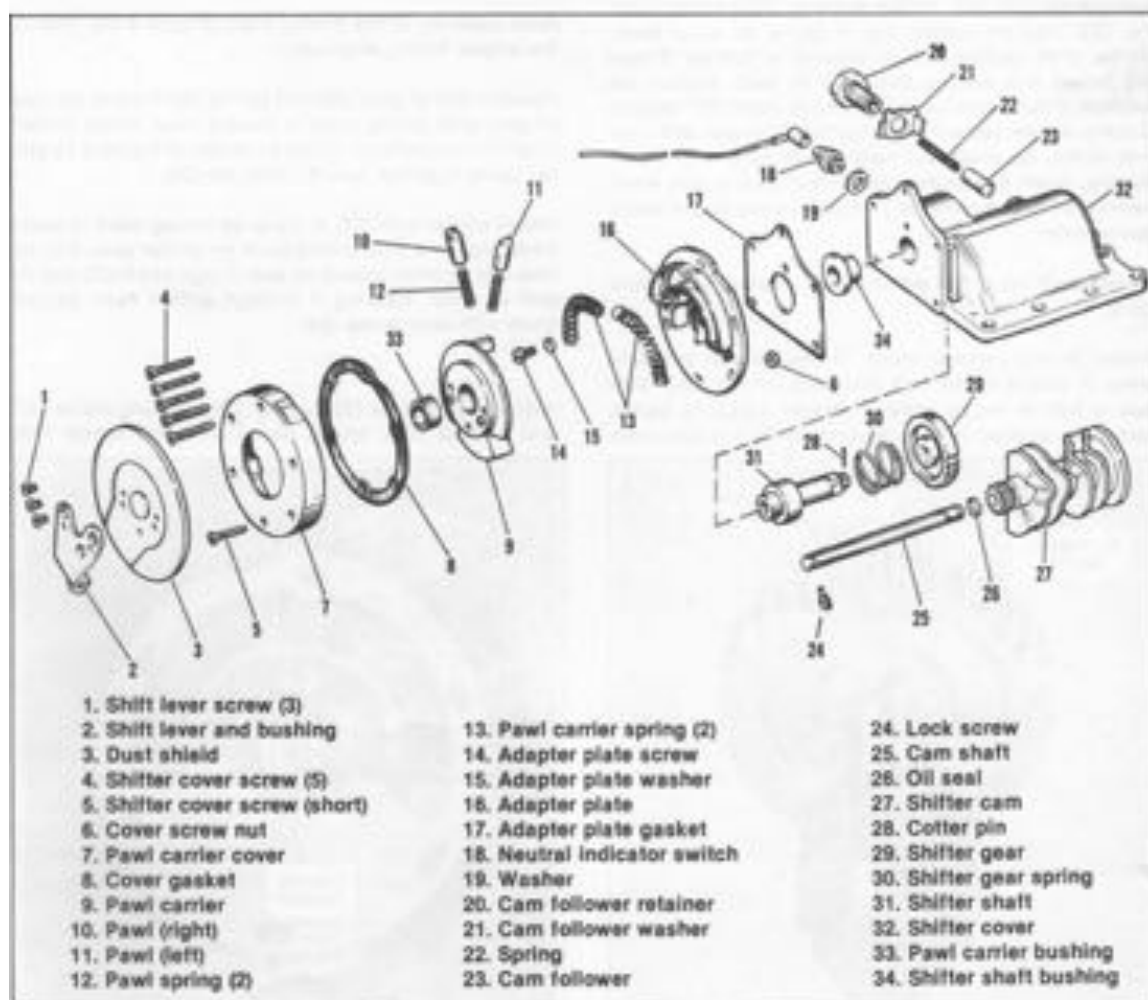
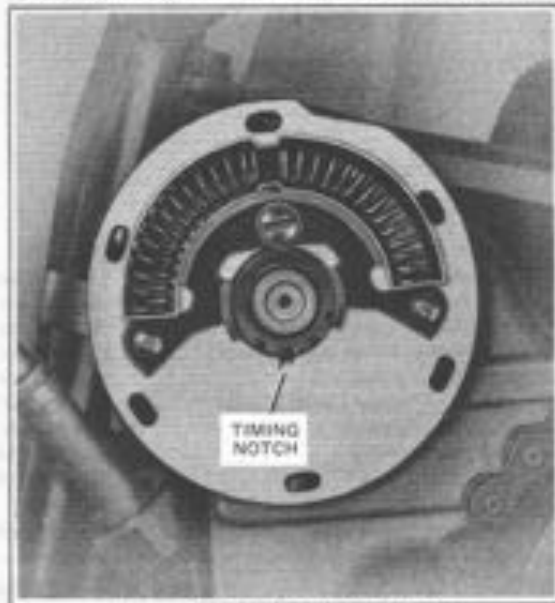

Figure 4-12. Foot Shifter Cover — Exploded View
Figure 4-14. Timing Shifter Notches
Disassemble shifter cover parts 1 through 12 as described in "Disassembling Shifter Cover," see Figure 4-12. Time shifter notches as illustrated in Figure 4-14. Loosen screw (14, Figure 4-12) and rotate adapter plate (16) until timing notch (Figure 4-14) in adapter plate, located at bottom of shifter gear hole, lines up with notch between two shifter gear teeth. Make alignment exact, then tighten adapter plate bracket screw to lock in position. This adjustment can be made with shifter in any gear (not neutral).
#### CLEANING, INSPECTION AND REPAIR (Figure 4-12)
#### ASSEMBLING SHIFTER COVER (Figure 4-12)
Rotate adapter plate until timing notch (Figure 4-14) in adapter plate, locked at bottom of shifter gear hole, lines up with notch between two bottom shifter gear teeth. Make alignment exact, then tighten adapter plate bracket screw (14).